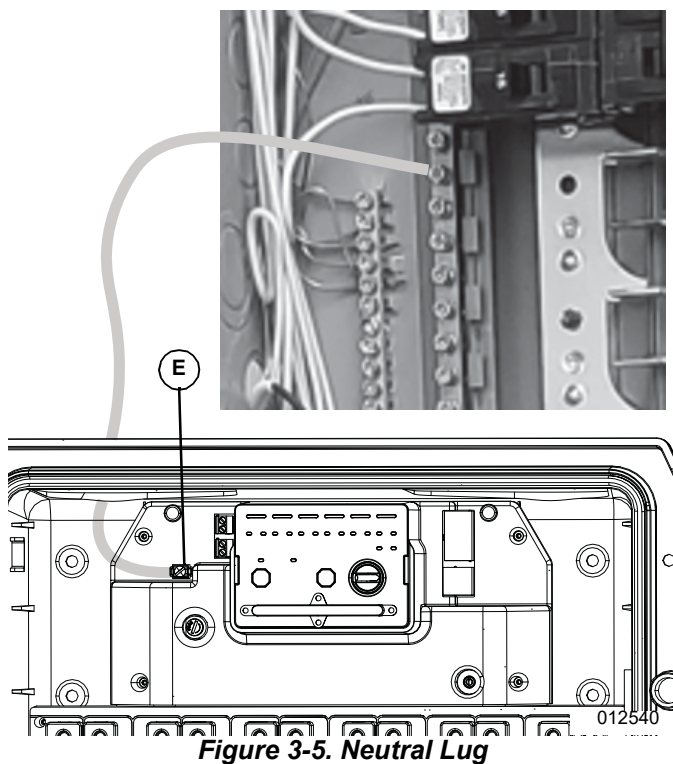

Figure 3-5. Neutral Lug
See Figure 3-5. Run a neutral wire (#14 AWG) from the neutral bar in the breaker panel to the neutral lug (E) in the unit. Tighten the lug to **25 in-lb** (3 N-m).